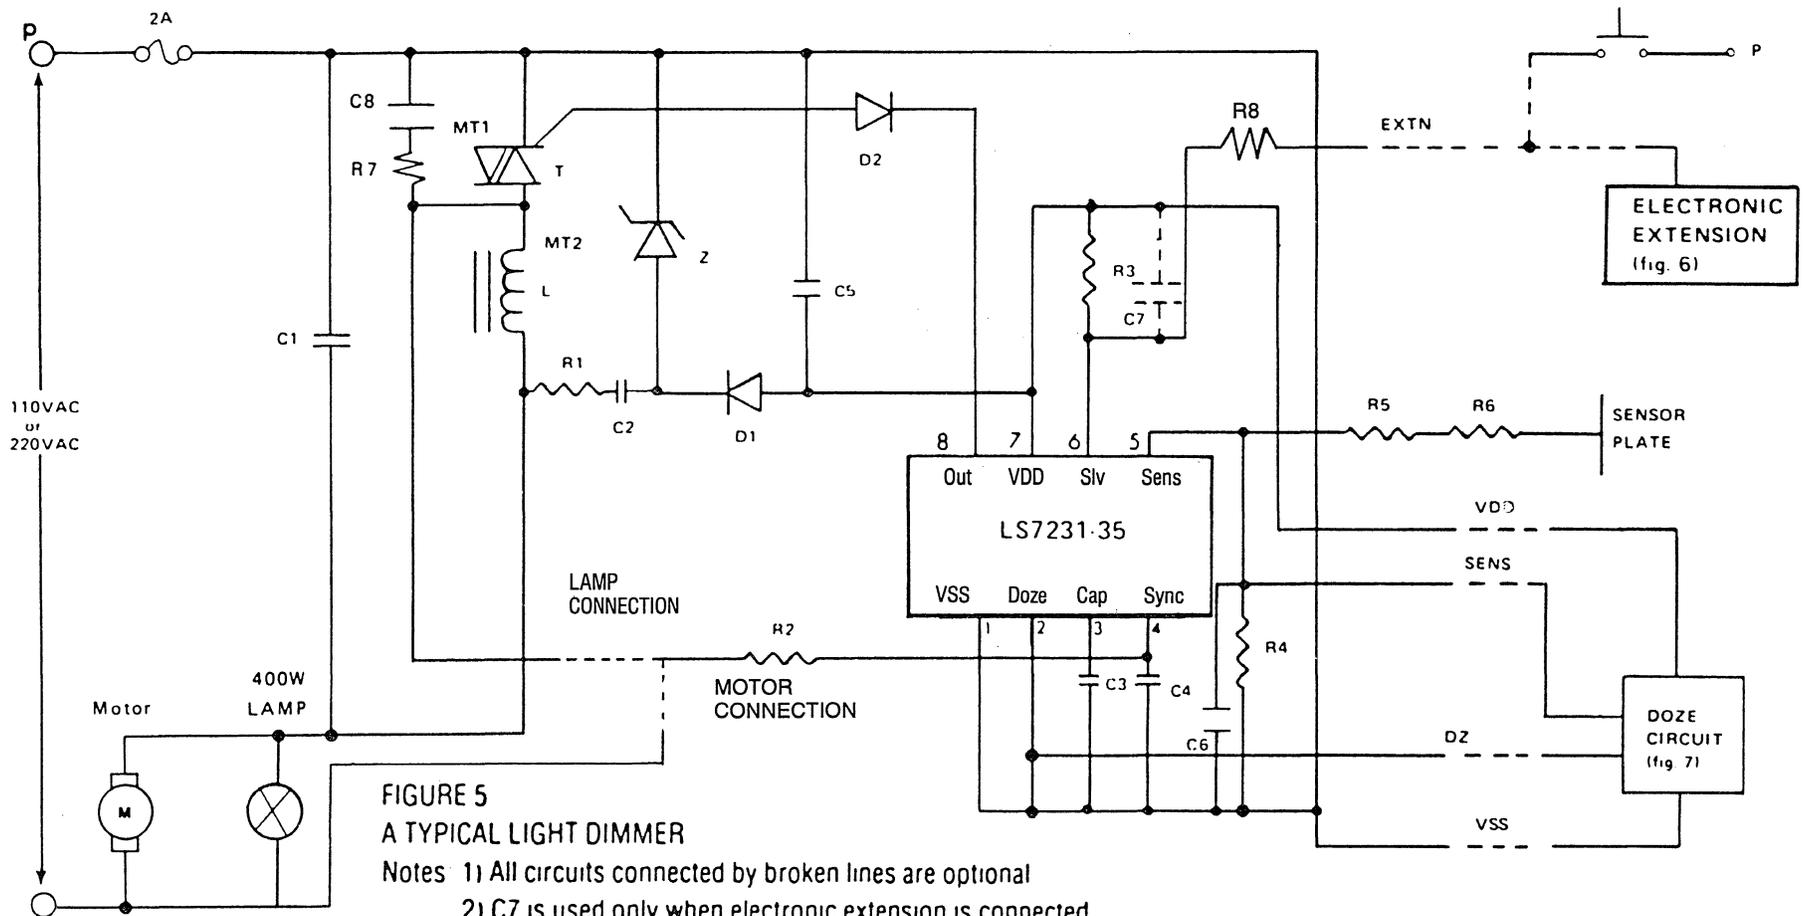
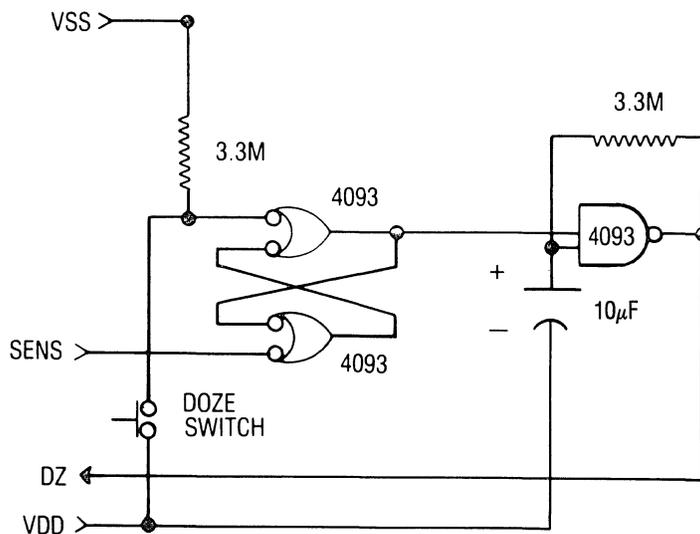

FIGURE 5
FIGURE 7. DOZE CIRCUIT
A typical implementation of the light dimmer circuit is shown in Fig. 5. Here the brightness of the lamp is set by touching the sensor plate. The functions of different components are as follows:
**DOZE CIRCUIT: (Fig. 7)**
The Doze circuit shown in Fig. 7 generates a slow clock (0.04Hz) at the DZ terminal. If the sensor plate (Fig. 5) is not touched, the SENS terminal of the Doze circuit of Fig. 7 sits at a logical high level. A momentary pressing of the Doze switch sets the SR flip-flop, enabling the oscillator. Every negative transition of the clock (DZ terminal) causes the light intensity to be reduced by equal increments, until eventually the light is shut-off. The oscillator has no further effect on the dimmer circuit. When the light is turned on again by touching the sensor plate, the SR flip-flop is reset and the DZ clock is turned off.